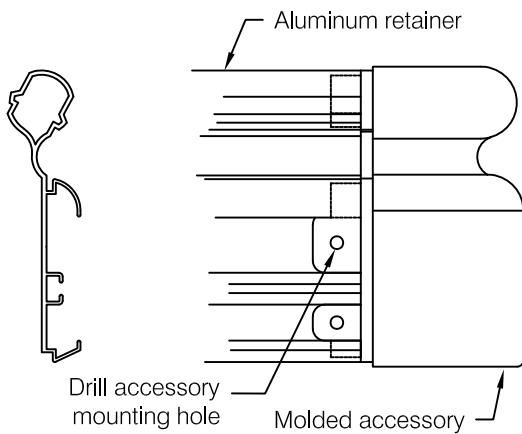

fig 3
Step 5: Insert molded accessories into end of retainer, press firmly to ensure molded part is seated squarely against the end of the retainer. Drill accessory mounting holes using the accessory as the template, see **fig 3**.